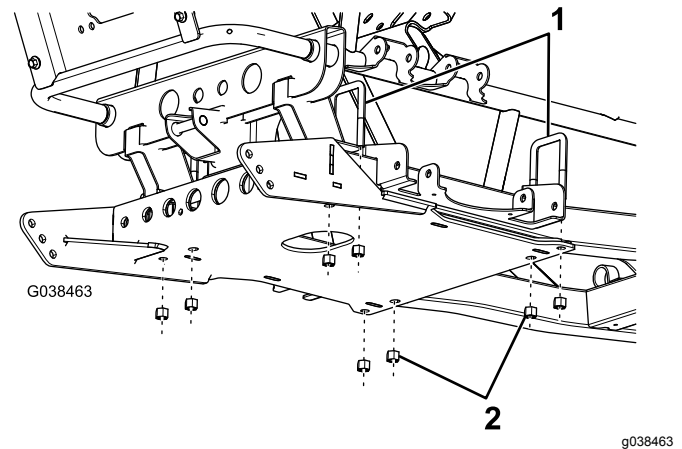

Figure 6
4. Using 4 large U-bolts and 8 locknuts (3/8 inch), loosely attach the skid plate to the vehicle frame (Figure 6).